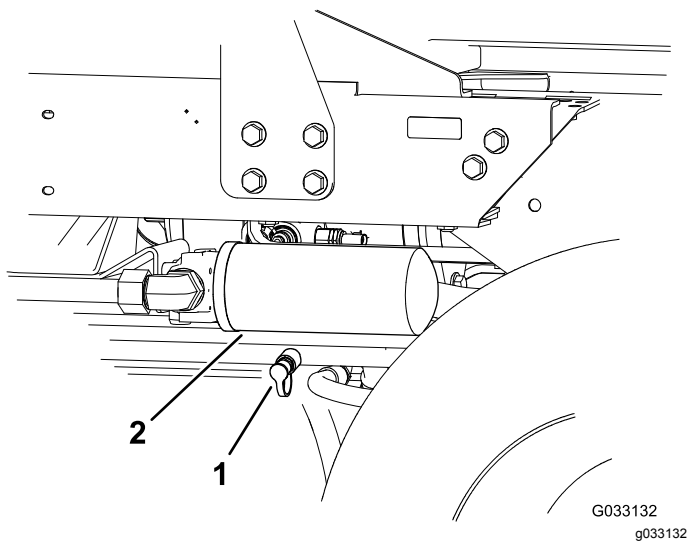

Figure 39
2. Connect a hydraulic hose between the diagnostic fitting installed in the rear traction manifold and the reverse traction pressure test port (Figure 39).